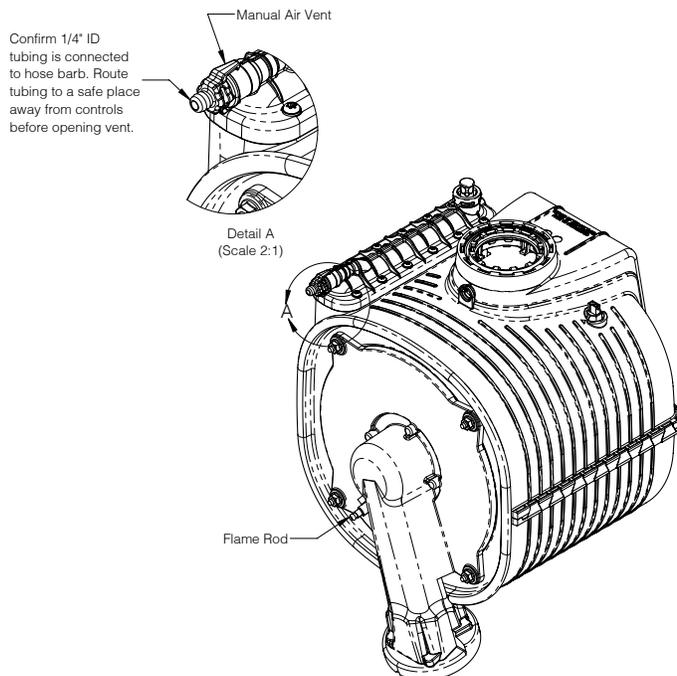

Figure 14-1: Manual Air Vent Location
4. Eliminate air in boiler by bleeding from heat exchanger manual air vent on top left side of heat exchanger (Figure 14-1).
- B. Measure carbon monoxide (CO) level after 5 minutes of operation above 50% firing rate. Ensure door is sealed before taking combustion readings.
11. Perform a check of ignition safety shut-off device. With burner firing, carefully unplug black ignitor/ flame sensor wire at burner door using a pair of insulated pliers (Figure 14-1). Burner should shut off immediately.